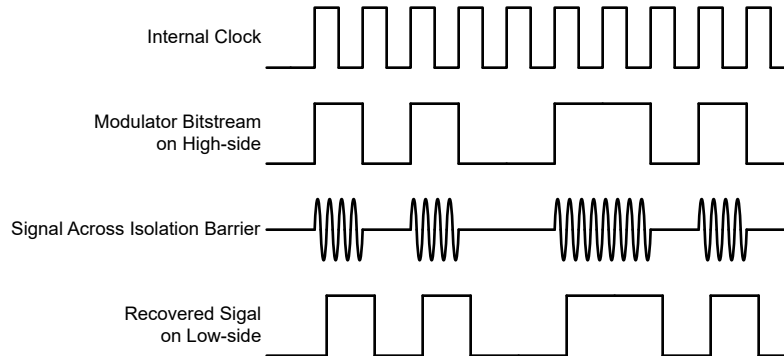

Figure 7-1. OOK-Based Modulation Scheme
The AMC1411 uses an on-off keying (OOK) modulation scheme, as shown in Figure 7-1, to transmit the modulator output bitstream across the SiO₂-based isolation barrier. The transmit driver (TX) shown in the Functional Block Diagram transmits an internally-generated, high-frequency carrier across the isolation barrier to represent a digital one and does not send a signal to represent a digital zero. The nominal frequency of the carrier used inside the AMC1411 is 480 MHz.